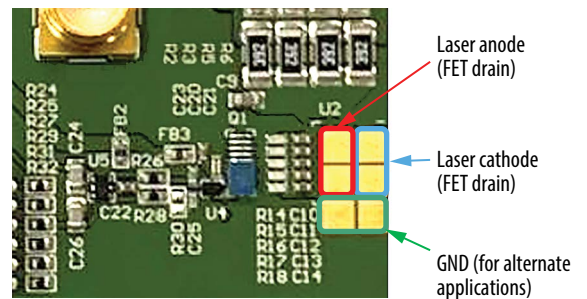
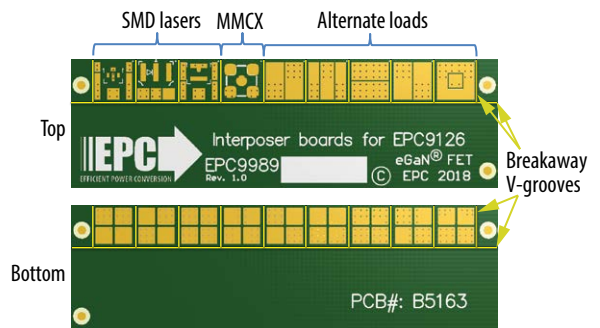
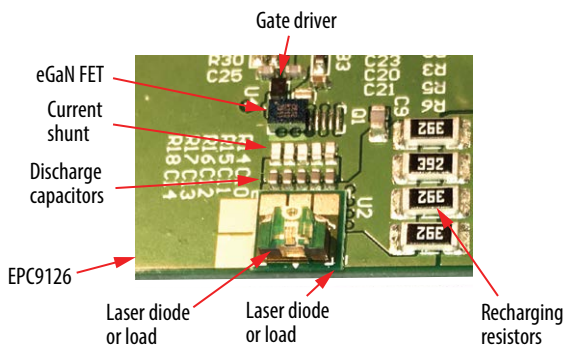
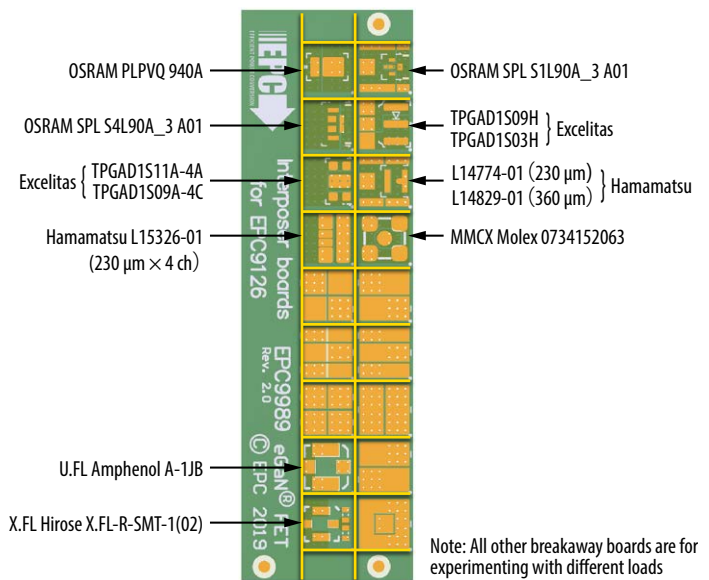

Figure 3: Output terminals of EPC9126xx
Figure 4: EPC9989 interposer PCB
Figure 5: Laser mounted to EPC9126xx using interposer
Figure 6: Product key indicating which laser diode packages correspond to the mounting location of EPC9989 interposer board.
**SAFETY WARNING:** This board is capable of driving laser diodes to generate high peak power optical pulses. Such pulses are capable of creating PERMANENT VISION DAMAGE. Laser diodes may emit infrared (IR) light that is invisible, but which can still cause PERMANENT VISION DAMAGE. User is fully responsible for following proper laser safety procedures to prevent vision damage.
**NOTE:** When measuring the high frequency content switch node, care must be taken to avoid long ground leads. Measure the switch node by placing the oscilloscope probe tip through the large via on the switch node (designed for this purpose) and grounding the probe directly across the GND terminal provided. See Figure 3 for proper scope probe technique.
The EPC9126xx can be used as is to mount a laser diode or other load. Figure 3 highlights the output pad locations. However, many laser suppliers have different mounting footprints, making it difficult to optimize the performance of the driver and still maintain the desired flexibility. The use of an interposer PCB provides a solution to this problem with only a small added performance penalty. The EPC9126xx Rev. 3 ships with the EPC9989 interposer PCB, shown in figure 4. The EPC9989 has an assortment of 5 mm square interposer PCBs that can be snapped off the board. These interposers have various footprints on the top side that can accommodate several surface mount laser diodes, an MMCX connector, and several patterns designed to accommodate a wide variety of possible loads. These interposers mount between the EPC9126xx and the laser diode or other load. Figure 5 shows an example of an Excelitas SMD laser diode mounted with one of the interposers. The product key indicating which laser diode packages correspond to the mounting locations is shown in figure 6.